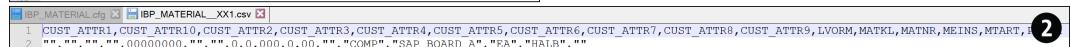

Figure 7.4 Example CFG and CSV Files for Integrating Material Master Data
OpenAPI in SAP IBP requires the integrated data to be in CSV and CFG (configuration) file formats. The CFG files provide the format of the data files and consists of data file format, filename pattern, row delimiter, codepage format, columns, column data types, and so on. Figure 7.4 shows an example of configuration and data file formats (CFG ① and CSV ②) for integrating material master data.